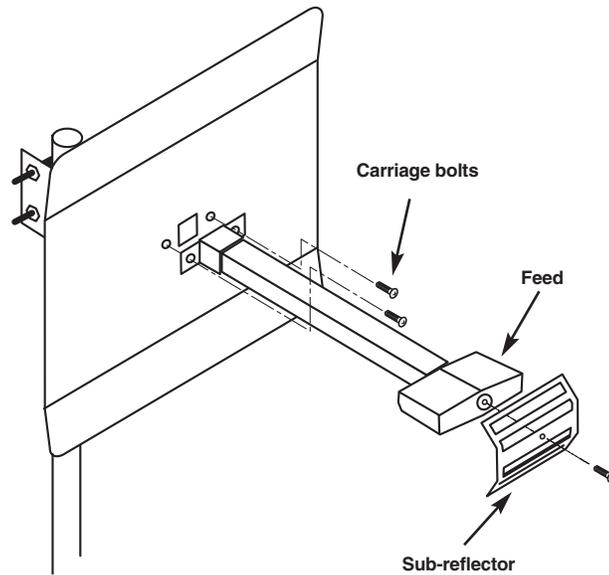

Figure 3-1. Attaching the Sub-Reflector.
1. Place the sub-reflector on the front of the feed and secure with the #6 x 1/2" stainless screw (see **Figure 3-1**).